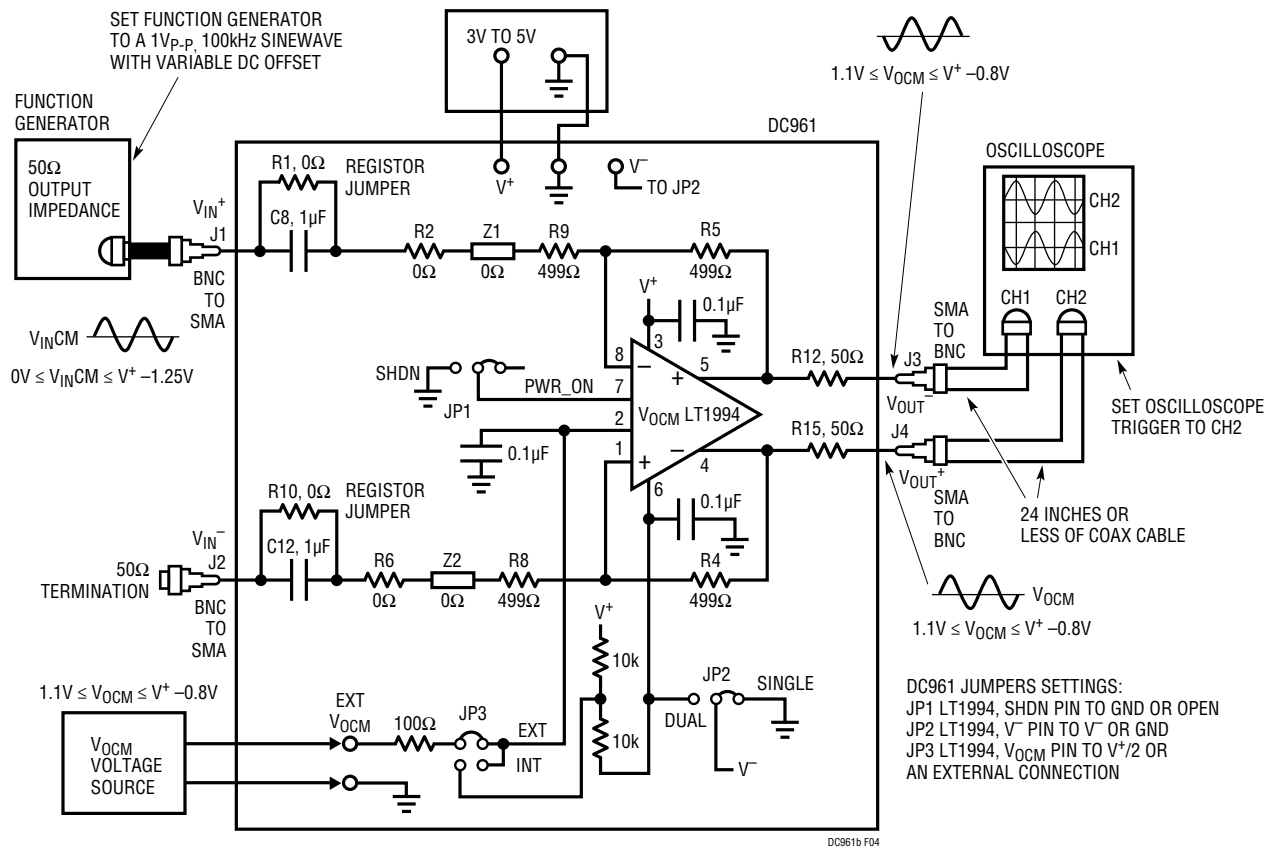

Figure 4. Input and Output Common Mode Quick Test Setup
2. Connect DC961 as shown in Figure 4 (JP1 to PWR_ON, JP2 to SINGLE, and JP3 to EXT V_{OCM}).